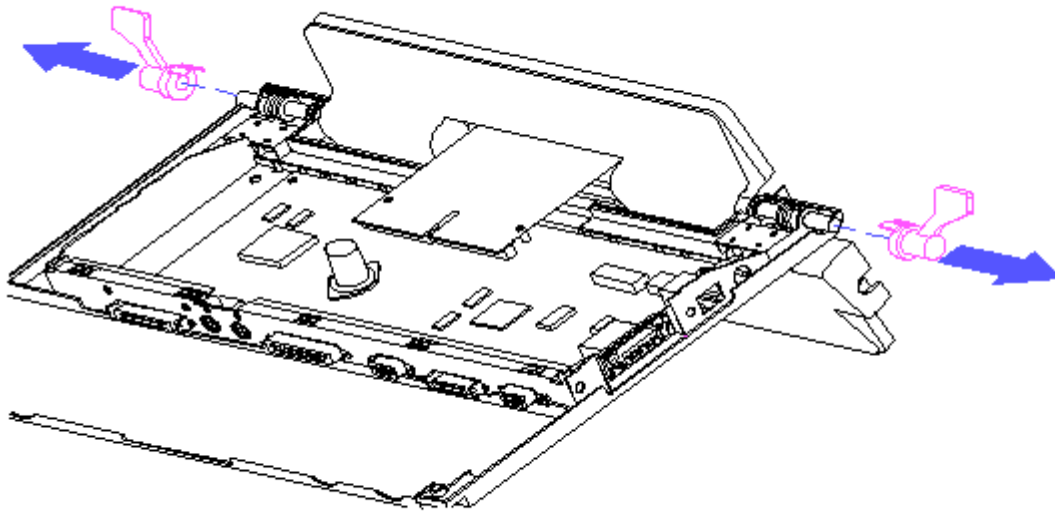

Figure 4-22. Clutch Actuator Replacement
4. Remove the clutch actuator. Lift the clutch a sufficient height away from the plastic to allow removal of the actuator (Figure 4-22).